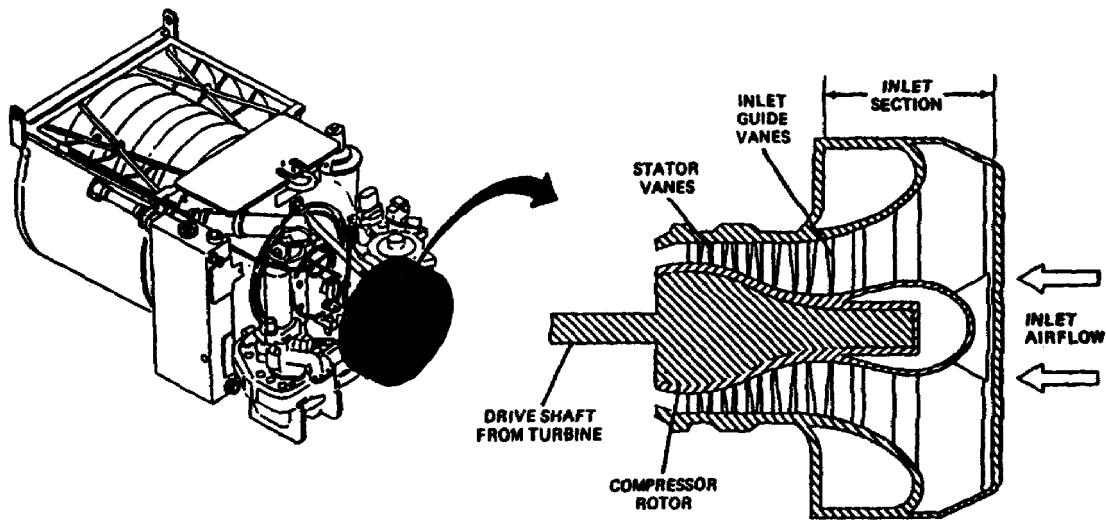

Figure 1-19. Air Inlet Section.
(4) Continuous Combustion. As discussed above, the four-stroke/cycle piston-type engine performs four separate discrete events. Each event must be completed before the next one begins. Basic gas turbine engine operation consists of four events that are essentially the same as the piston-type reciprocating engine; however, these events combine to form a continuous cycle. As the gas turbine operates, each of the four events transpires continuously. In the gas turbine engine, as long as there is a supply of air and fuel to burn, expand, and maintain turbine speed, the cycle is said to be continuous and self-sufficient.
(5) Thermal Comparison. The piston-type engine operates at relatively cooler temperatures than the gas turbine engine. The piston engine withstands combustion chamber temperatures of approximately 5000 degrees Fahrenheit (2760 degrees Celsius) for a short duration of time. The hot components are cooled rapidly to maintain relatively low temperatures of only a few hundred degrees. In the gas turbine, the combustion chamber maintains a constant temperature and limits it to approximately 1000 to 2000 degrees Fahrenheit (537.7 to 1090.3 degrees Celsius). This is done to retain the resilience of internal components and inhibit formation of foreign matter on rotating parts.
(6) Air Inlet Section. The air inlet section (Figure 1-19) serves to furnish a uniform and steady airflow to the face of the compressor. Inlet sections may be equipped with or without inlet guide vanes. Inlet guide vanes serve to direct the air into the first stage of the compressor.